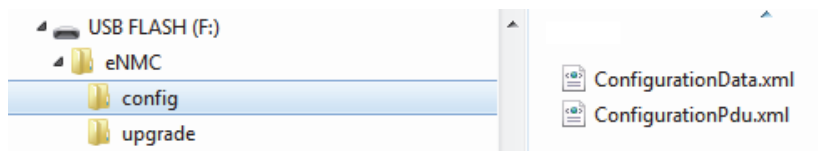

Figure 61. Example USB Root with eNMC Config Directory
7. Click **OK** to continue when a successful pop-up message displays the following see Figure 61):